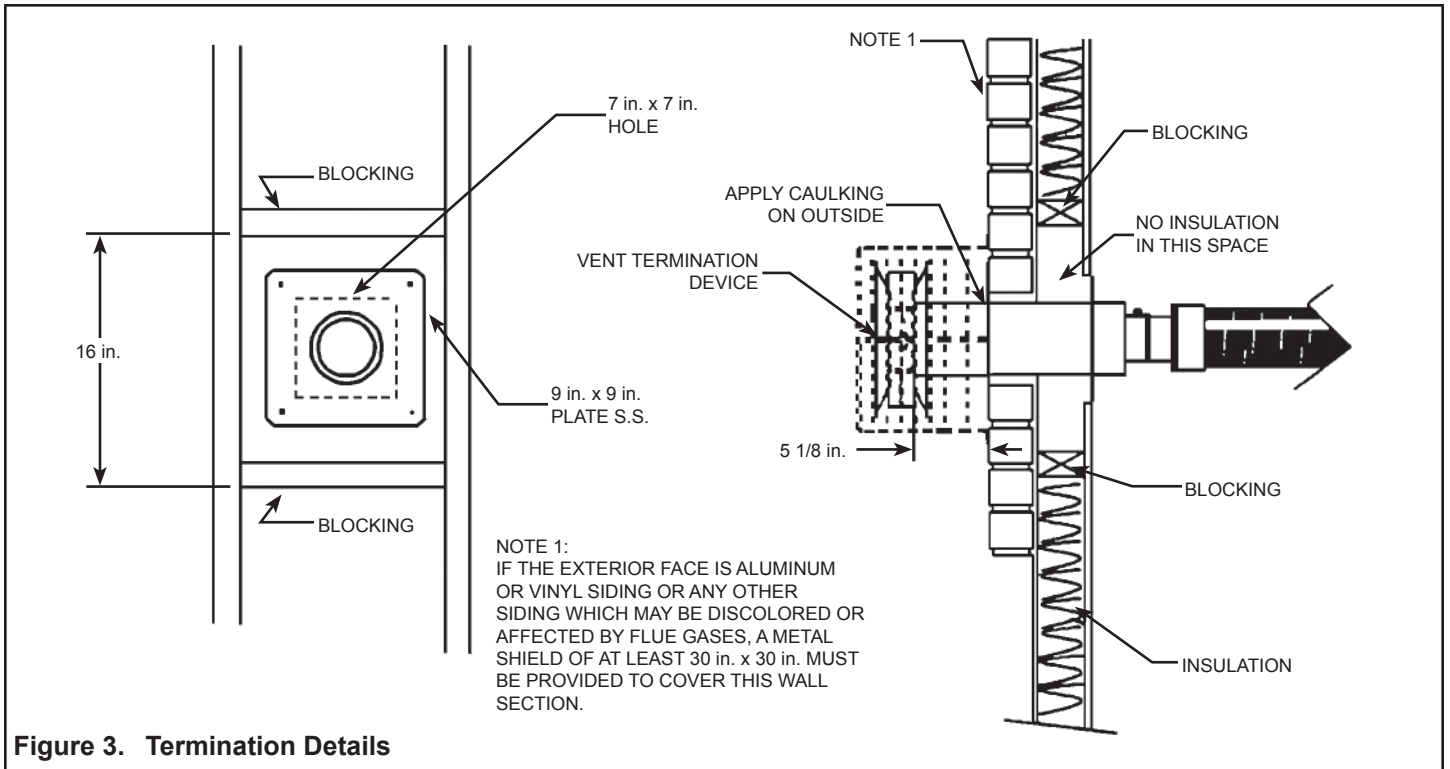

Figure 3. Termination Details
The vent terminal must have sufficient clearance from ground level so that it will not be buried in snow. The location of the vent terminal must also meet the regulations of the “**Installation Code for Oil Burning Equipment**” **NFPA 31** (also see Figure 3).
1. Drill or cut an opening through the exterior wall and fasten the vent terminal as shown in Figure 3.
5. Maintain clearances to combustible material (2" x 4" or 2" x 6" framing) as per Figure 3. **Note:** If the flex duct is to be located between joists, the spacers provided must be used to maintain clearances to combustible material.